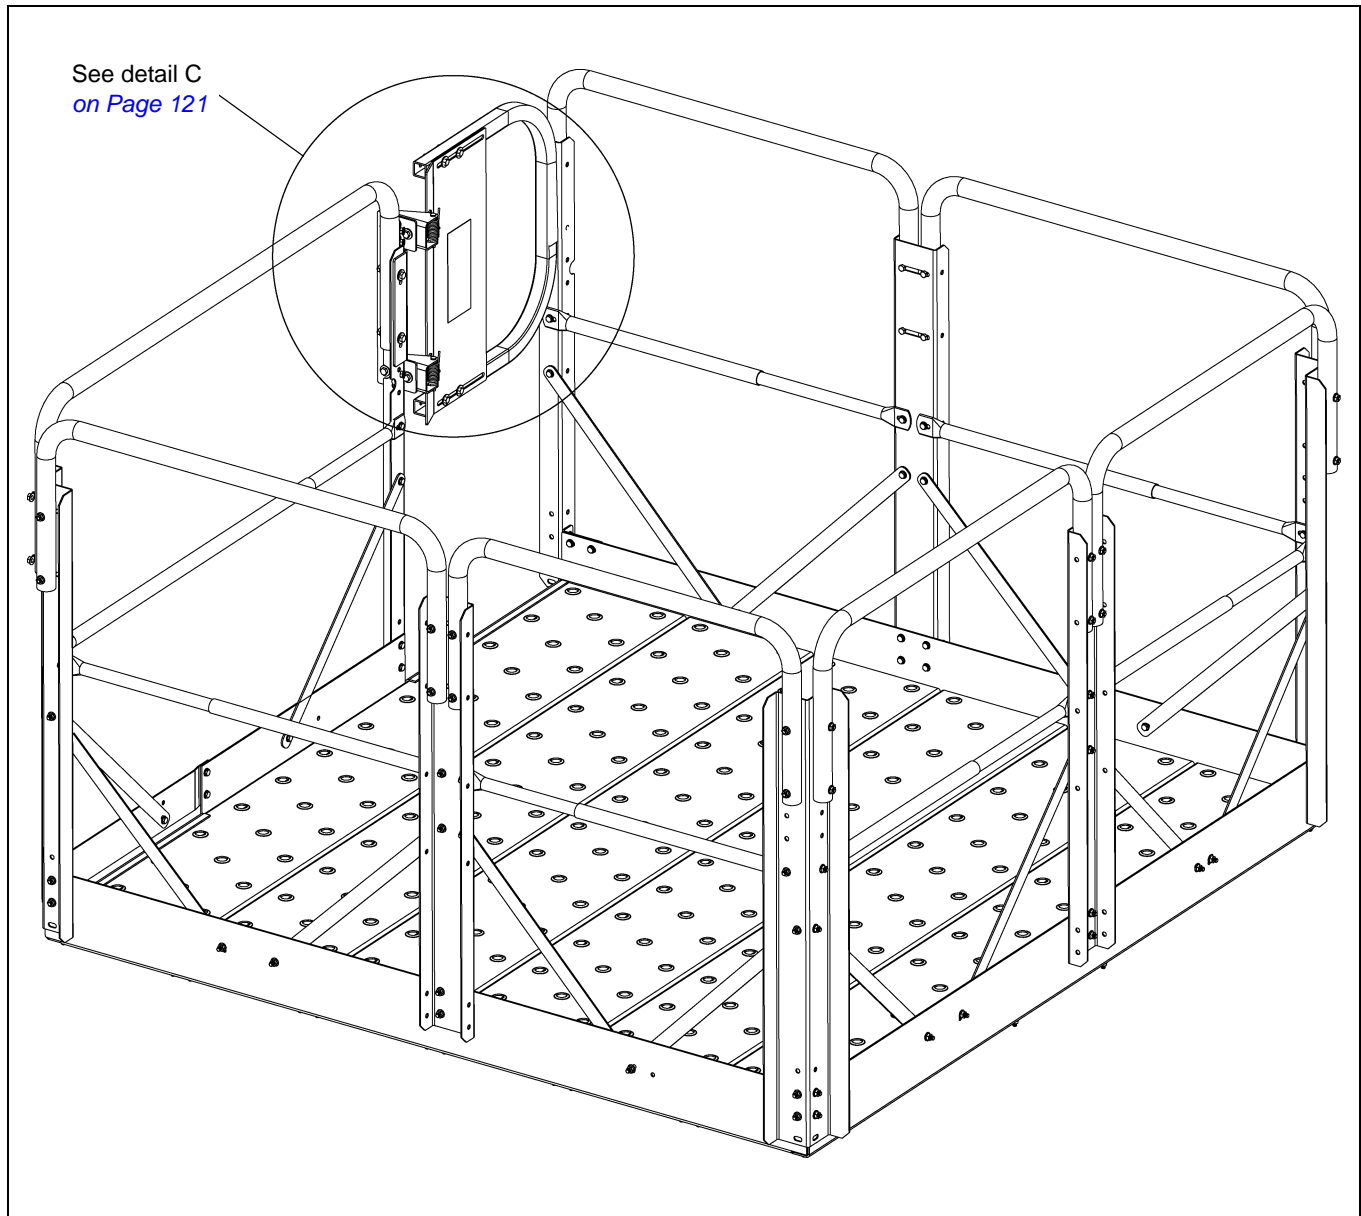
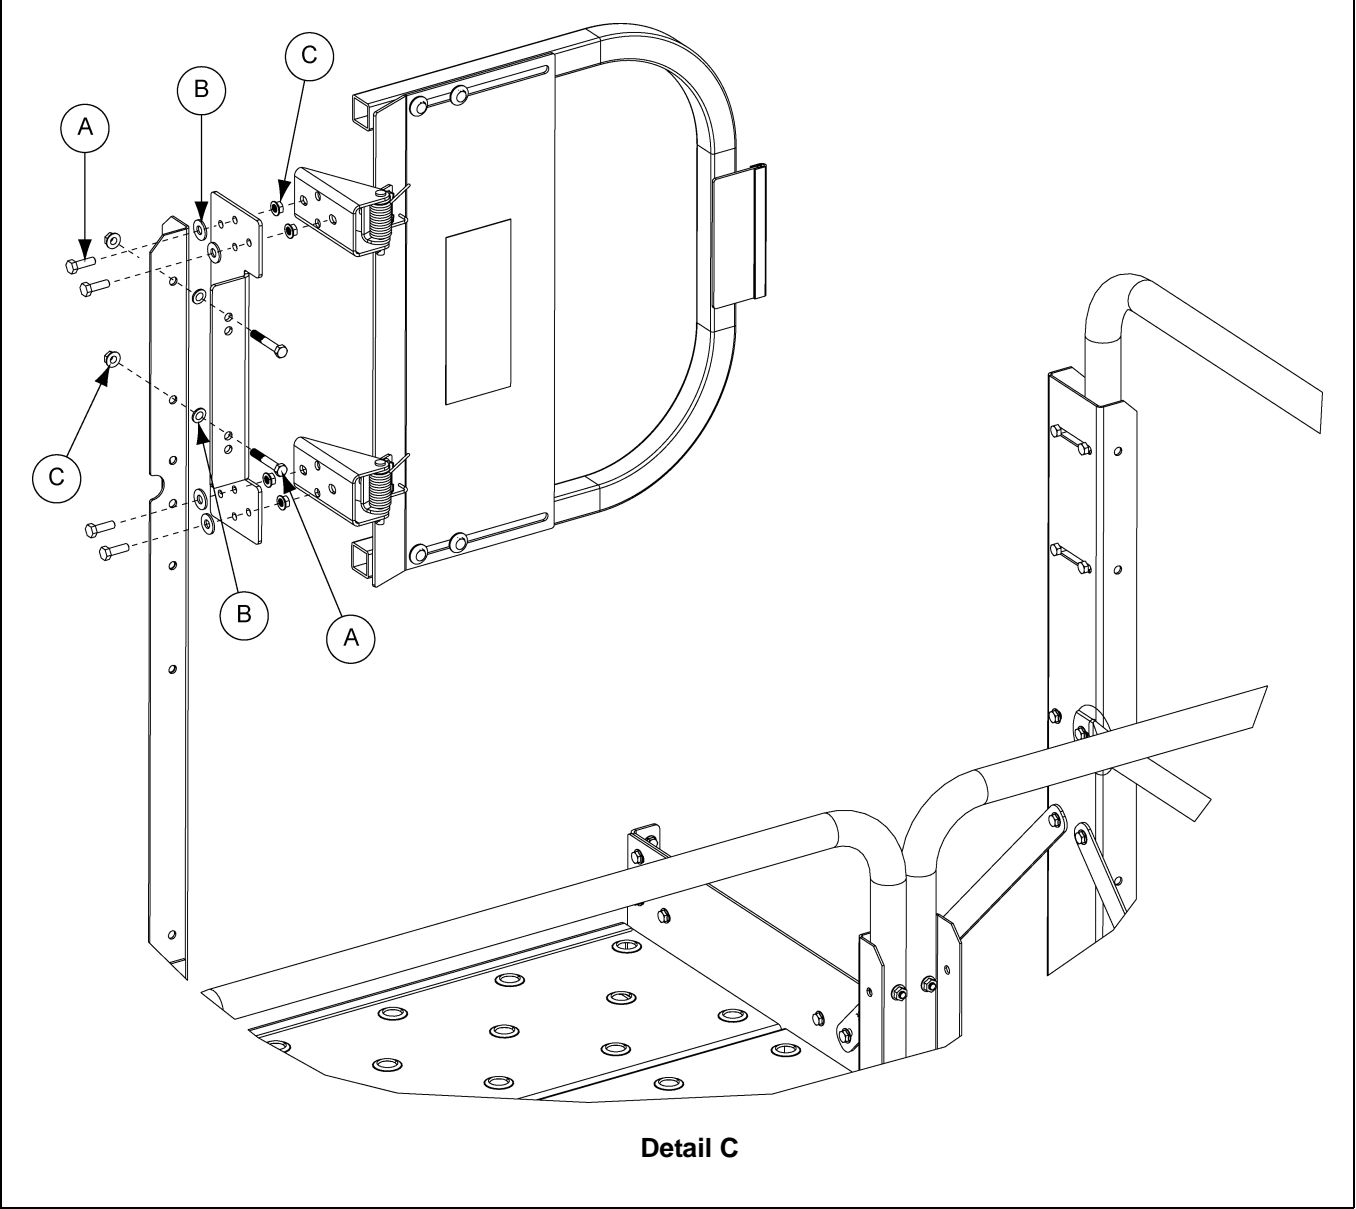

Figure 13P
Figure 13Q
Attach intermediate platform door bracket to two (2) safety gate side posts (HP1648HP) using 5/16" bolt (S-1196) (A), 5/16" flat washer (S-845) (B) and 5/16" flange nut (S-3611) (C). (See Figure 13P below and Figure 13Q on Page 121.)